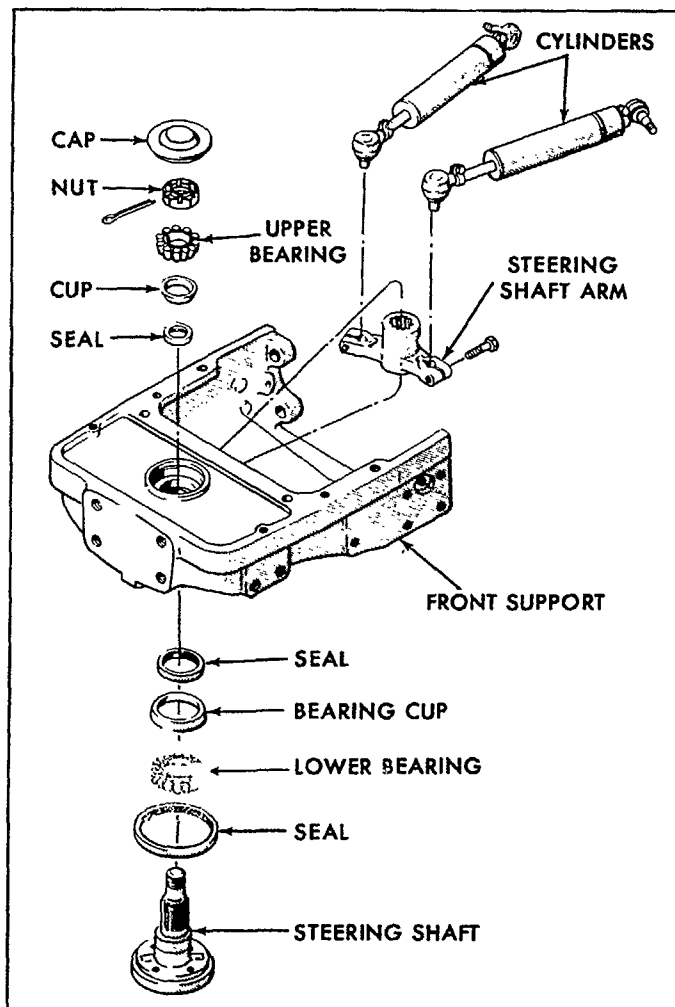

Figure 84
4. Loosen each bolt securing the front of the cylinders to the steering shaft arm, Figure 84, then remove the cylinders.
6. Remove the steering spindle bearing cap, Figure 84.
1. Align the hole of the steering shaft arm, Figure 84, with the steering shaft hole in the front support.